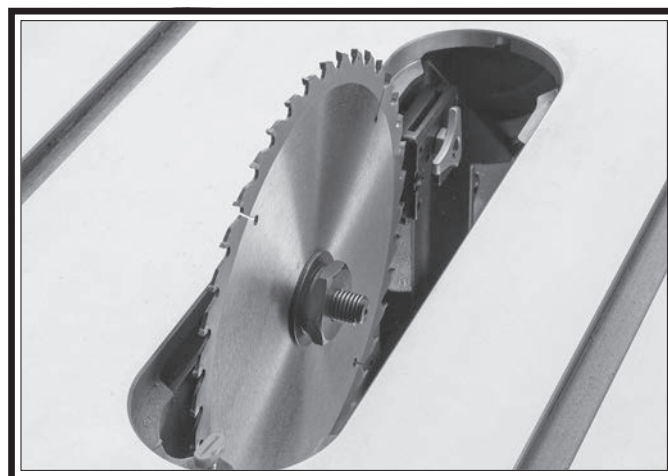

Figure 52. Blade properly installed.
6. Install arbor flange and nut and tighten against blade as shown in **Figure 52**. DO NOT OVERTIGHTEN!